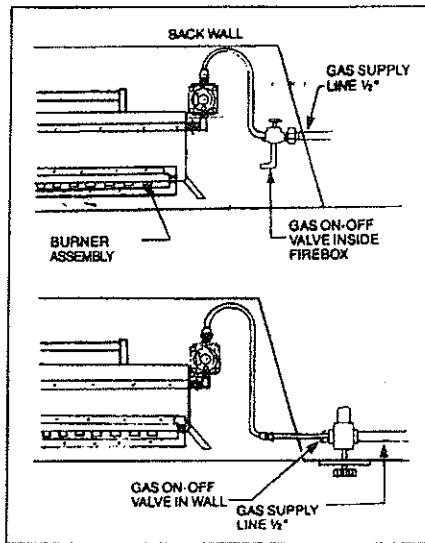

Figure 4. Gas line installation — Masonry fireplace.
F. **Masonry fireplaces.** A 1/2 inch gas supply line must be provided to the firebox. Most installations require drilling an access hole through the masonry wall. The supply line should be secured and sealed by mortar within the access hole. The supply line should also have an on-off valve either in the wall or inside the fireplace. (See Figure 4.)